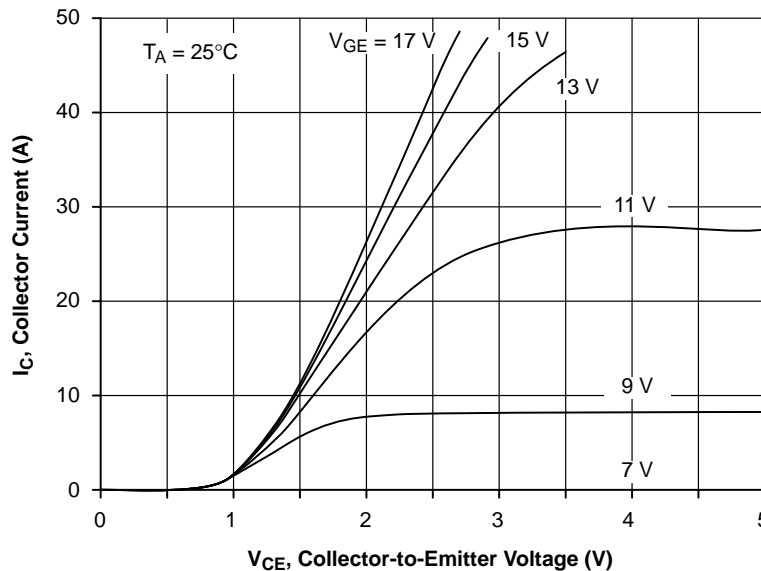

Figure 1. Output Characteristics of a 15 A, 600 V IGBT
1.  $V_{CE}$  variation – Unlike a MOSFET that gets fully enhanced at relatively low gate voltage (in most MOSFET output characteristics, there is minimal gain once  $V_{GS}$  crosses 10 V), the output/saturation characteristics of the IGBTs show continuing dependence on the  $V_{GE}$  voltage. This is best illustrated in the attached Figure 1 from an IGBT datasheet. As shown in the curves, there is a significant gain to be had in the saturation voltage ( $V_{CE}$ ), as the  $V_{GE}$  value is increased beyond 11 V for same collector current value. In fact, higher current is not supportable until  $V_{GE}$  is increased above 13 V. Given high current applications, even a 0.1 V improvement in  $V_{CE}$  translates into power savings of 1 W for every 10 A of collector current.